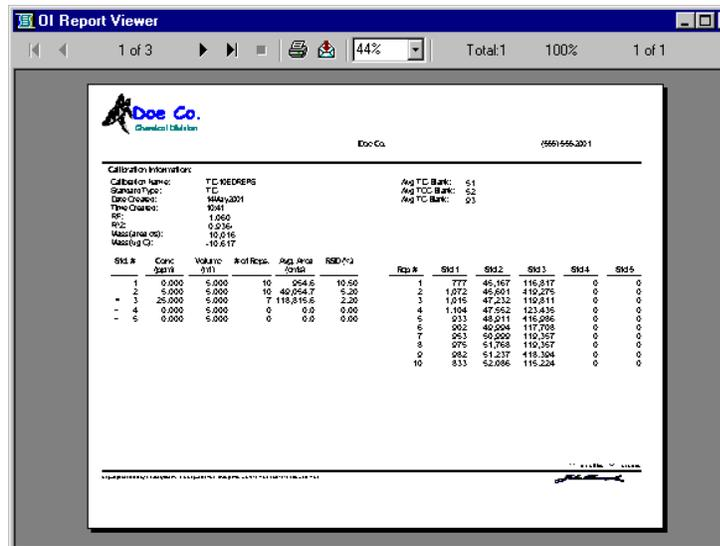

Figure 5.9. Report Viewer print preview
14. When all the information is complete, click **Run Report**. A print preview screen will display each page as it will look when printed, as in Figure 5.9.